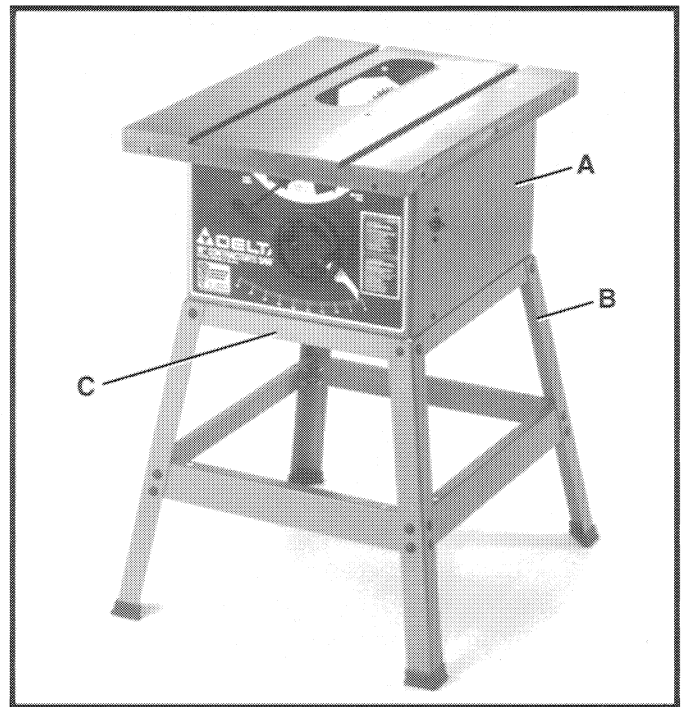

Fig. 9
Position the saw (A) Fig. 9, on the stand (B) with the front of the saw facing the same direction as one of the 17" long, top braces (C). Line up the four holes on the bottom of the saw cabinet with the four holes on the top of the stand and fasten the saw to the stand using four 5/8" long carriage bolts, 5/16" I.D. flat washers and 5/16-18 hex nuts.